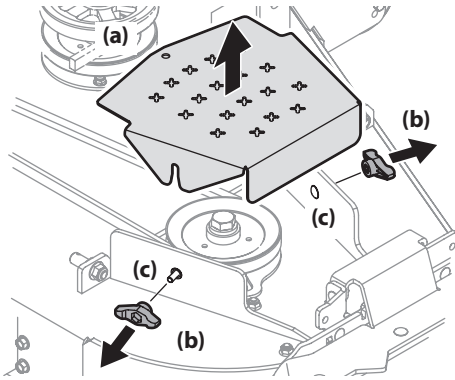

Figure 32
3. To remove the belt covers (a), remove the wing knobs (b) from the carriage screws (c) securing it to the deck (Figure 32).